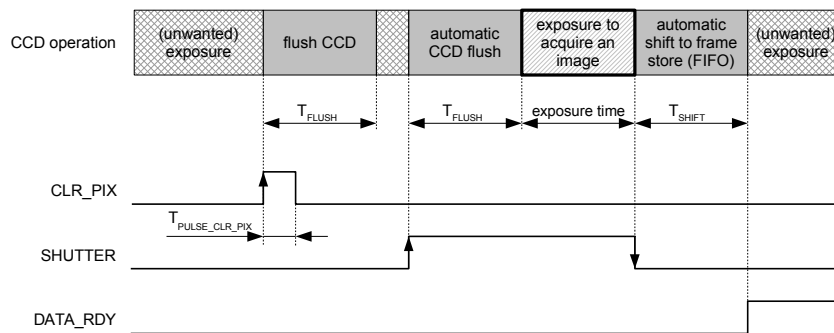
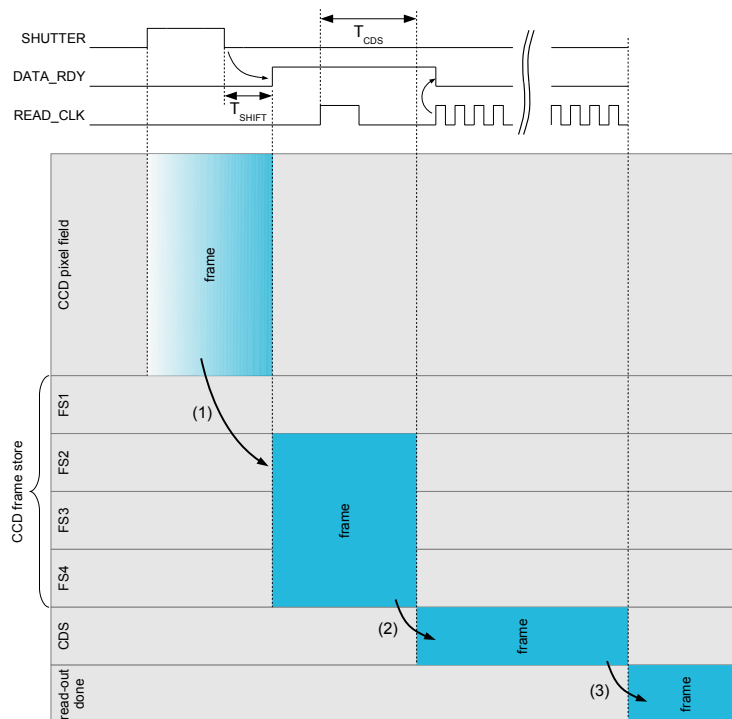
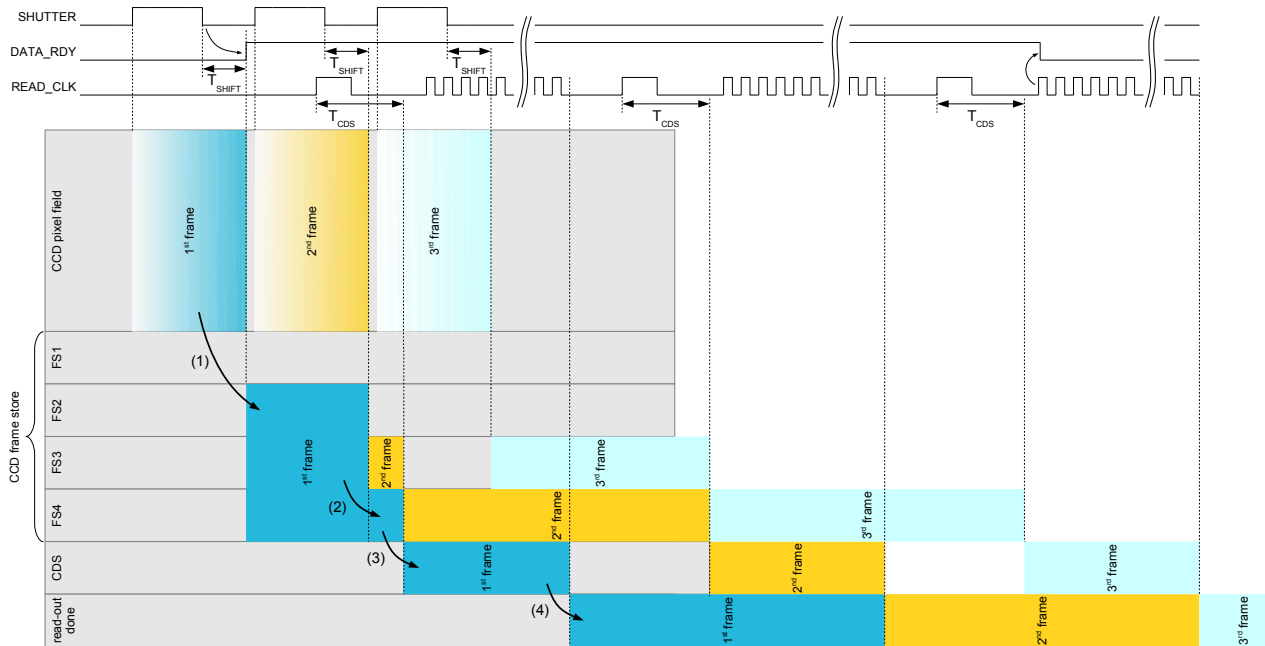
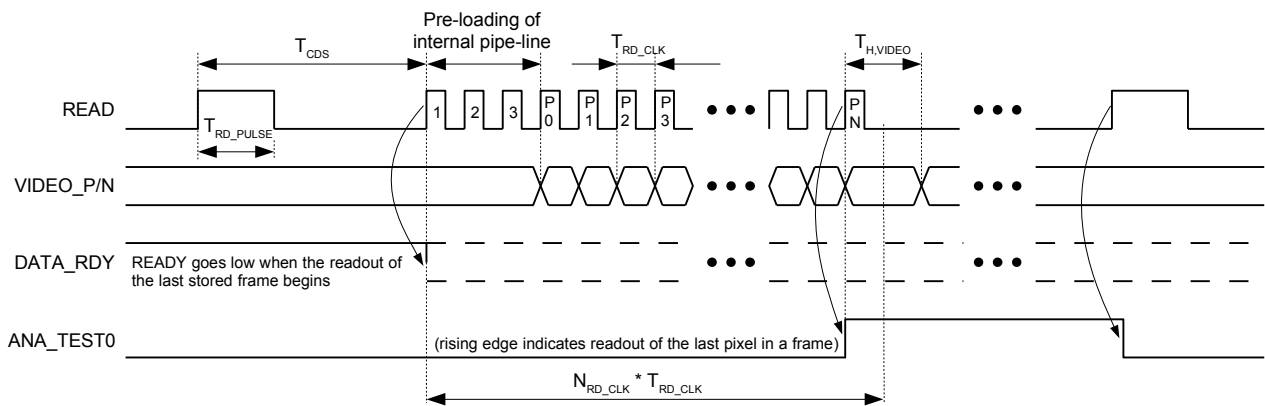

Figure 7: Image acquisition timing
Figure 8: Illustrative example of single-frame acquisition and read-out
Figure 9: Illustrative example of multi-frame acquisition and read-out
Figure 10: Image readout timing of one frame
The acquisition of a frame is controlled by a pulse on pin SHUTTER (see Figure 7). The rising edge of a pulse on SHUTTER triggers the internal flush operation to erase the CCD from any unwanted electrons prior to the exposure. The exposure starts automatically after the flush operation is completed. The CCD collects electrons thereafter as long as the SHUTTER pin is high. Upon the falling edge of SHUTTER, the charge collected in the CCD pixel field is automatically shifted to the CCD frame store which is a photo-insensitive area (see (1) in Figure 8). As soon as the frame is ready for read-out, the signal DATA\_RDY goes high. The image is ready to be readout as described in section 5.4..
Up to 4 images can be acquired and stored in the CCD frame store in a fast sequence without intermediate read-out. The CCD frame store is organized in 4 CCD frame store elements (FS1-FS4), thereby each CCD frame store element can store one frame/image. The first captured image initially occupies 3 frame store elements as for a single-frame acquisition (see section 5.2 and Figure 8). epc901 automatically detects a multi-frame acquisition when detecting the second SHUTTER signal without prior read-out. Upon the second shutter the first image is shifted to a single frame store element (see (2) in Figure 9). The frames are shifted from the CCD pixel field to and through the CCD frame store in a FIFO-manner i.e. the first captured image is the first one read out. The read-out is described in more detail in section 5.4. As soon as 4 frames have been captured without prior read-out, at least one read-out has to be issued prior the next shutter in order to make FS1 available again. Excessive shutter pulses are ignored.
according to the specified conversion gain (CG). This operation is called correlated double-sampling (CDS) and lasts for the time  $T_{CDS}$  (refer also to the block diagram in Figure 3 or Table 10). Following the Read Pulse, respecting a delay of at least  $T_{CDS}$ , Read Clock pulses are applied to the READ pin in order to transfer the pixel voltages to the VIDEO\_P/N pins. The first 3 Read Clock pulses, designated with 1, 2 and 3 in Figure 10, are used to pre-load the pipeline. Thus the first 3 pixel voltage values on VIDEO\_P/N can be ignored. The subsequent Read Clock pulses, designated with P0 ... PN in Figure 10, transfer the pixel voltage values through the video amplifier to the VIDEO\_P/N pins.
The signal DATA\_RDY remains high as long as there is at least one frame stored in the CCD frame store. If no more frames are stored except the one that is currently read out, the signal DATA\_RDY goes to low state on the first positive Read Clock edge (see Figure 10). If no frame is stored, the chip does nothing upon a Read Pulse.
- The following time periods shall never overlap in any multi frame acquisition or by parallel reading during exposure:  $T_{FLUSH}$  with  $T_{CDS}$  and  $T_{SHIFT}$  with  $T_{CDS}$ . Refer for these signals to Figure 7 and Figure 10.